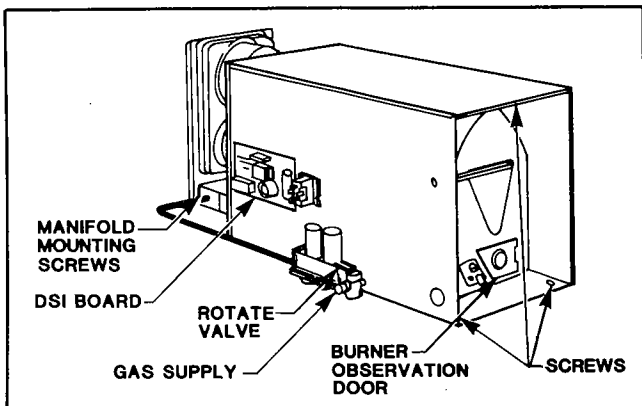

Figure 55. Furnace
4. Remove the screws holding the unit to the cabinet (figure 55).
1. Remove the nuts holding the burner observation door and remove the door (figure 55).